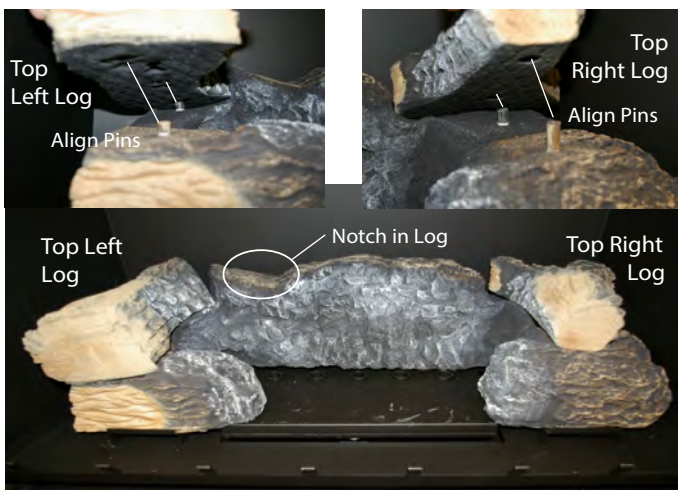
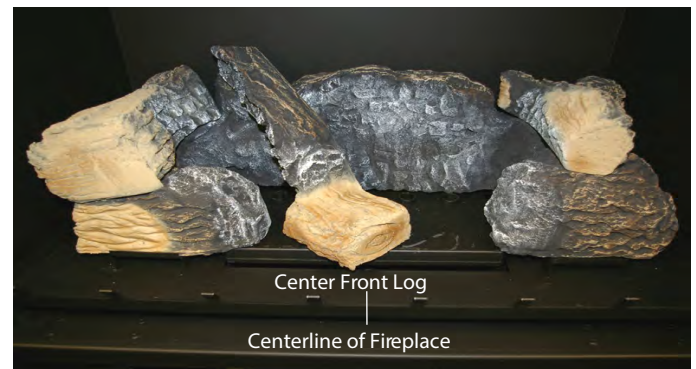

Figure 10c. Top Left / Right Log.
Figure 10d. Placing Centre Front Log.
Step 4. Place the Top Right log as shown in **figure 10c**. using the (4) four alignment pins protruding from the top of the Right and Left Bottom Logs, as shown in **figure 10c**. With these pins align the Top Right and Left logs using the predetermined alignment holes cast into the underside of the logs, as shown above, **figure 10c**.
Step 5. Place the Centre Front log, **Figure 10d** below, as shown using the notch cast in the Bottom Rear log as shown in **figure 10c** above.